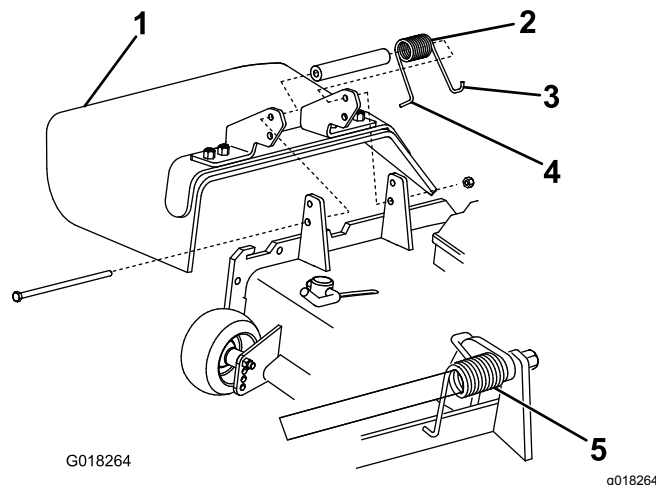

Figure 3
3. Place the right J-hook end of the spring around the grass deflector (Figure 3).